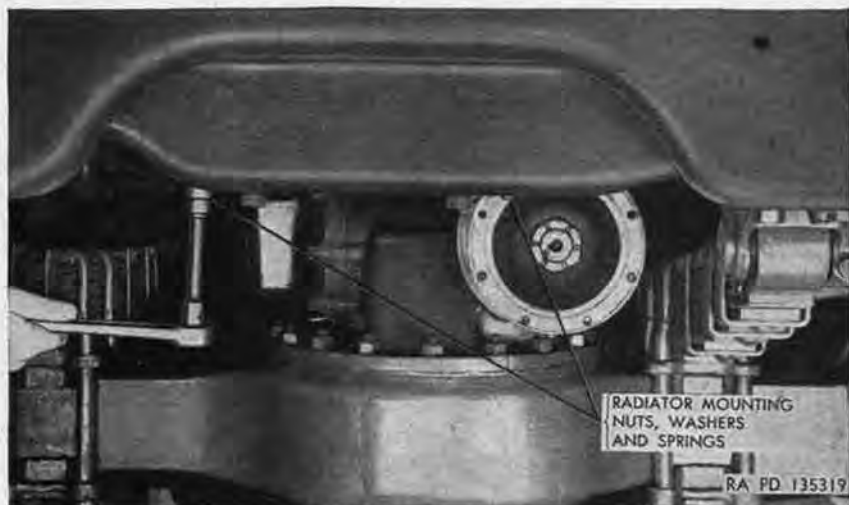

Figure 167. Radiator mounting.
- (8) Remove two radiator mounting nuts (fig. 167), washers, and springs from underside of engine front mounting support.
- (2) Install springs (fig. 167), washers, and nuts on the radiator mounting studs from the underside of the engine front mount-